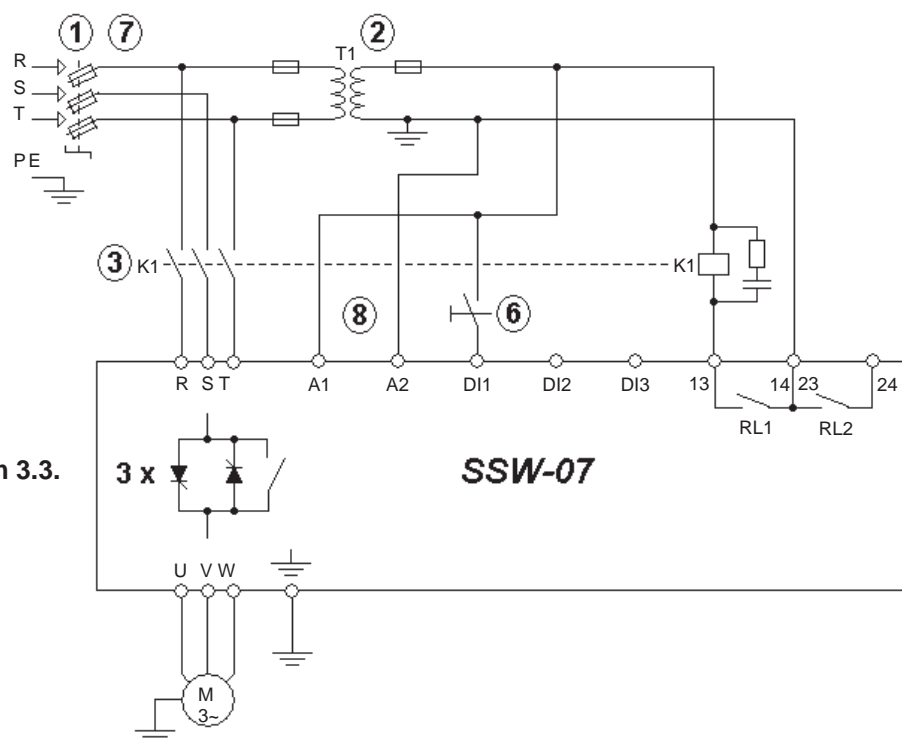

Figure 3.10 - Recommended set-up with commands via two-wire digital inputs and isolation contactor
- 3.2.4.3 Recommended Contactors When the SSW07 is used in applications that require an isolator contactor, according to the figure 3.10 (K1), the use of WEG contactors is recommended.